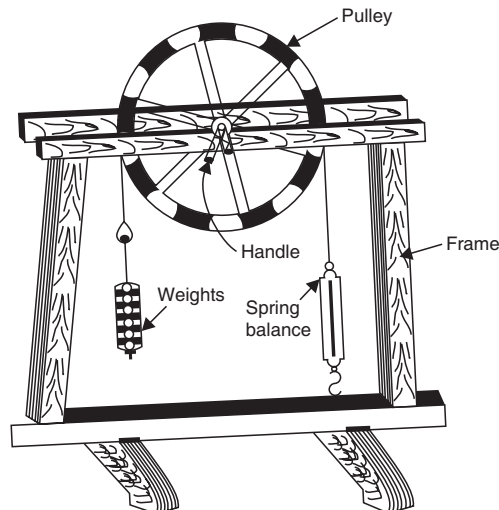

Fig. 10.1. Personal horse power apparatus.
**Apparatus.** Personal horse power apparatus (Fig. 10.1) consisting of a pulley fitted on a frame and a handle, spring balance, ropes, weights, metre rod, revolution counter, stop watch etc.